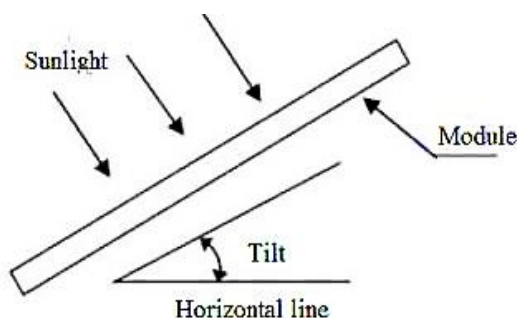

Figure 1 PV module tilt angle
2.2.6 The tilt angle of the PV module is measured between the surface of the PV module and a horizontal ground surface (as shows in Figure 1). The PV module generates maximum output power when it faces the sun vertical. If you want the specific information of best install tilt angle, please consult the local authoritative solar system construction company.